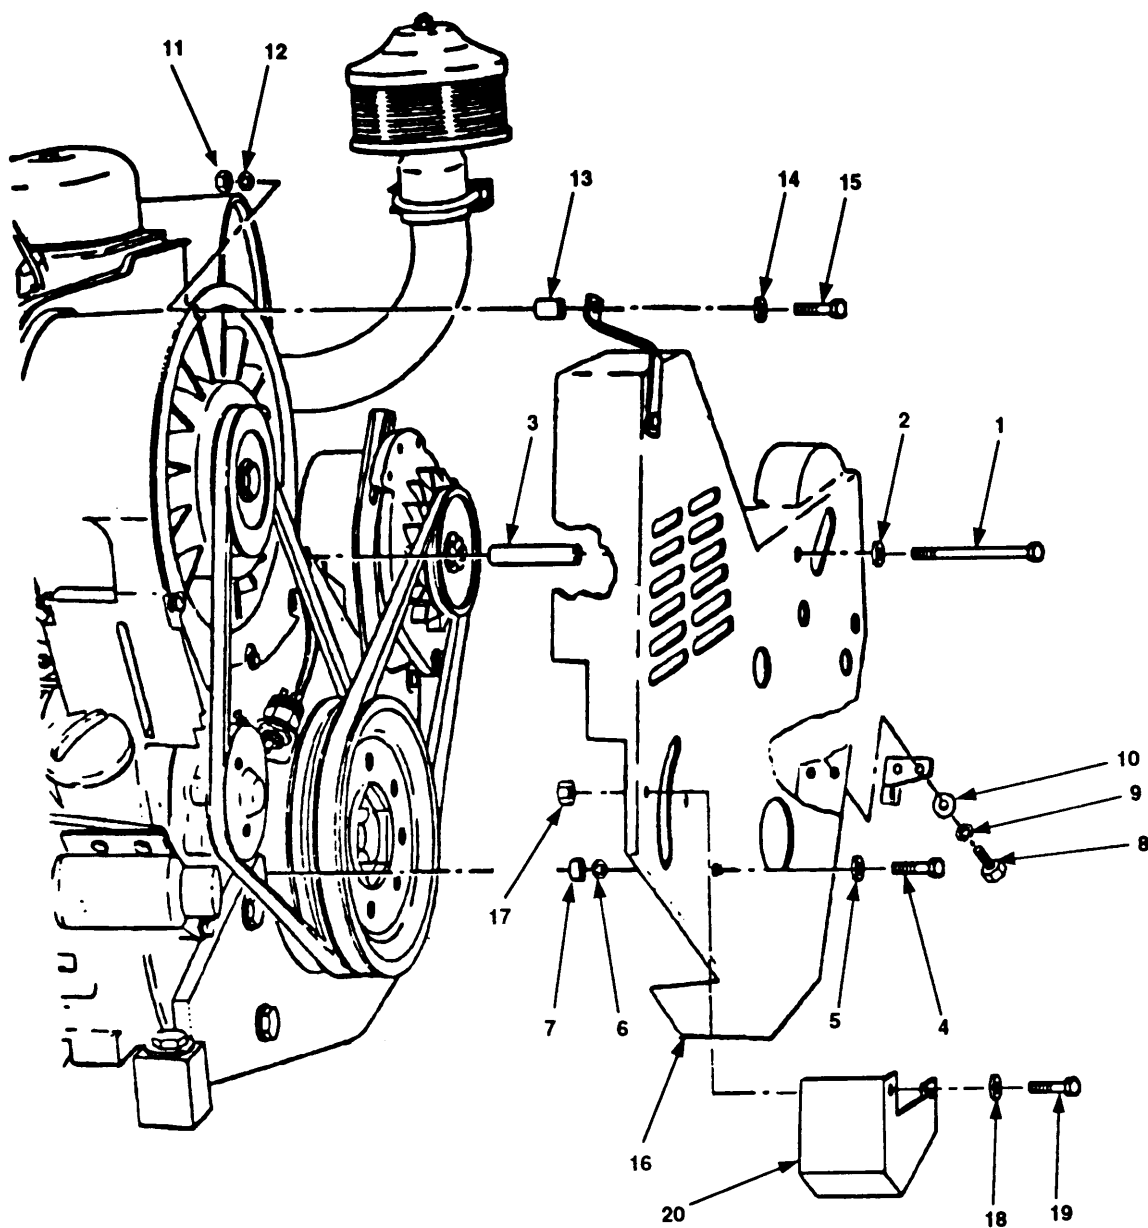

Figure 4-10. V-Belt Guard Removal.
- a. Remove bolt (figure 4-10, 1), washer (2), and spacer (3).
- b. Remove bolt (4), washer (5), lockwashers (6), and spacer (7).
- c. Remove two bolts (8), lockwashers (9), and washers (10).
- d. Remove nut (11), lockwasher (12), spacer (13), washer (14), and bolt (15).
- e. Remove V-belt guard (16).